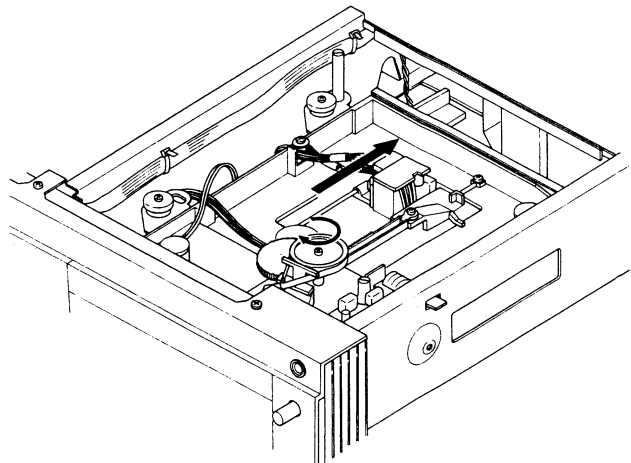

Fig. 2.1
- (1) Place the Compact Disc Player upside down on the work stand and remove the Bottom Cover by unfastening 10 screws and the shipping bracket.
- (2) Rotate the pulley of the Disc Mechanism Ass'y to move the Pickup in the direction of the arrow. See Fig. 2.1.